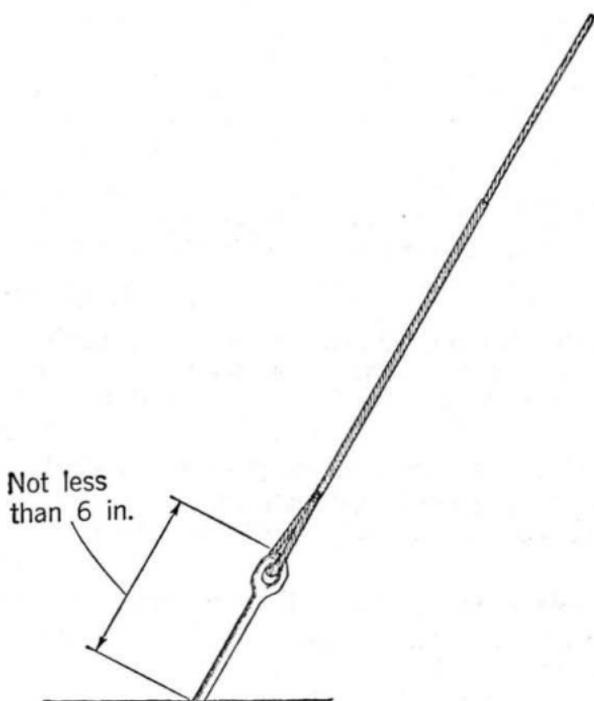

Fig. 1
3.07 The guy rod should be turned so that the eye and the 3-bolt clamp, loop of guy grip or bail of strandvice will be in the position shown in Fig. 1. When 3-bolt clamps are used on double eye guy rods, place clamp on top guy with nuts on top and clamp on bottom guy with nuts on bottom.